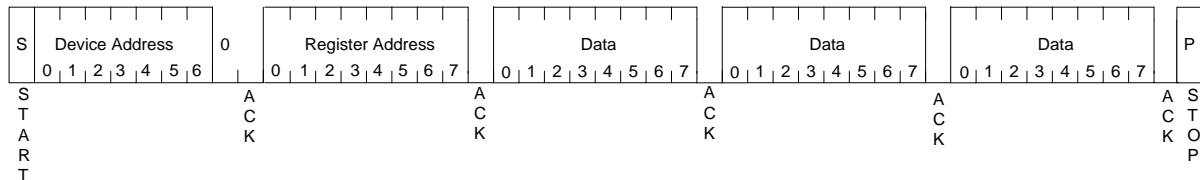

Figure 4-6: I²C Bus 3-byte Data Write
Following the START (S) condition from the master, the device address (7-bits) and the R/w bit (logic low for write) are clocked onto the bus by the master. This indicates to the addressed slave receiver that the register address will follow after it has generated an acknowledge bit (A) during the ninth clock cycle. Therefore, the next byte transmitted by the master is the register address and will be written into the address pointer of the 78M6610+PSU. After receiving another acknowledge (A) signal from the 78M6610+PSU the master device will transmit the data byte(s) to be written into the addressed memory location. The data transfer ends when the master generates a STOP (P) condition. This initiates the internal write cycle. The example in Figure 4-6 shows a 3-byte data write (24-bit register write).